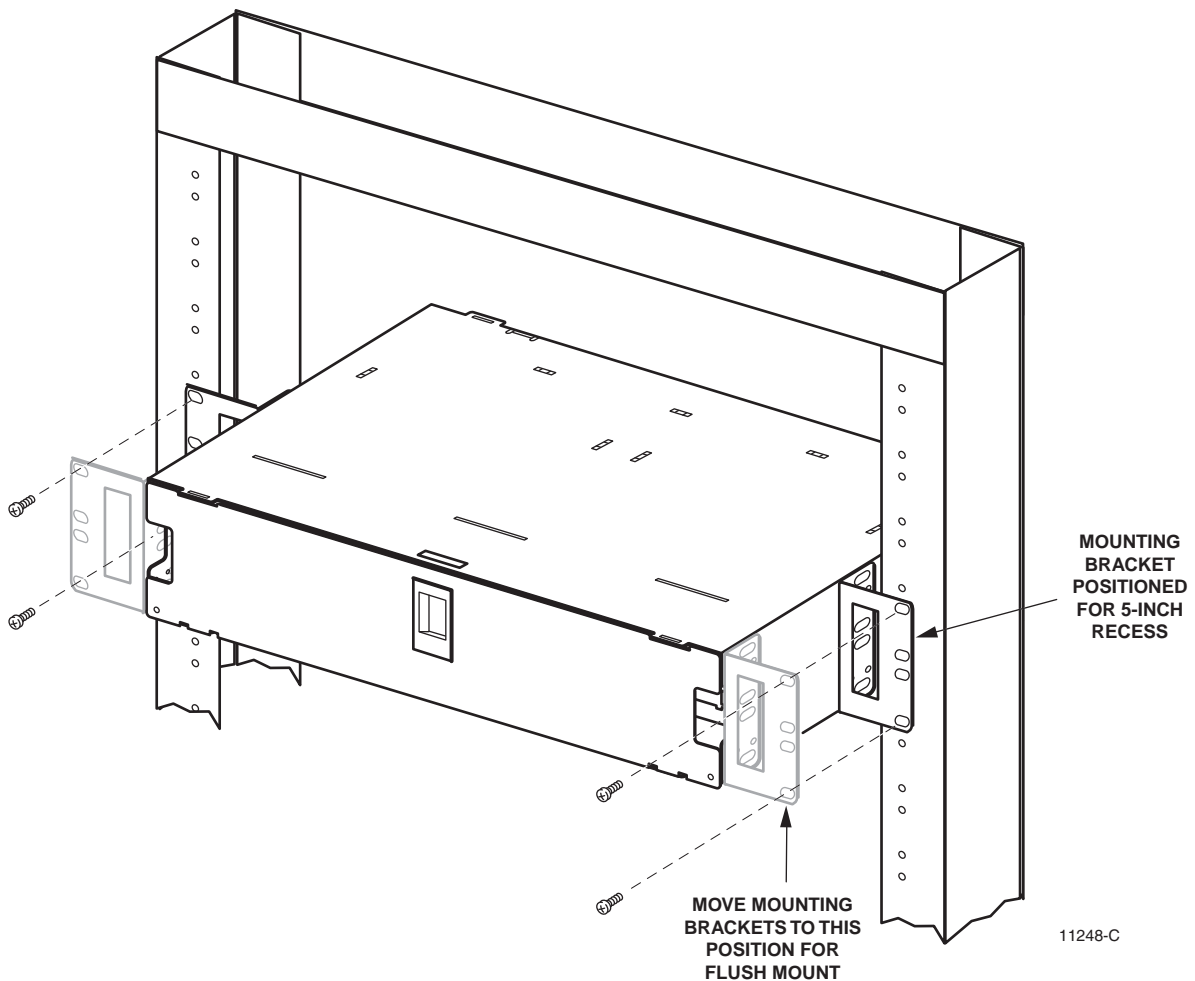

Figure 2. Installing a Chassis on a 23-Inch Rack
- b. For 23-inch rack, 5-inch recess mount, use Figure 2 back position;
- c. For 23-inch rack, flush mount, use Figure 2 forward position.